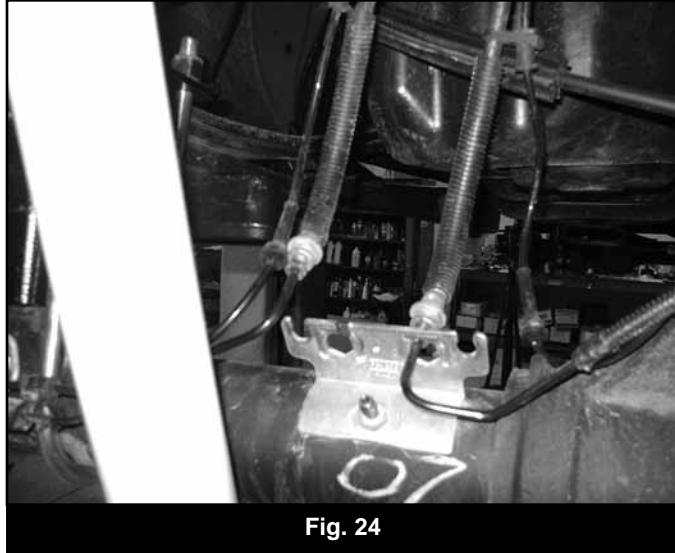

Fig. 24
62. Remove the ABS wires from the axle bracket. Remove brakeline retaining clips holding brakeline hardlines in place. Pull the brakelines through the mounting bracket and trim a slot to remove them from the bracket. Use extra caution to not damage the brakelines. (Fig 24).